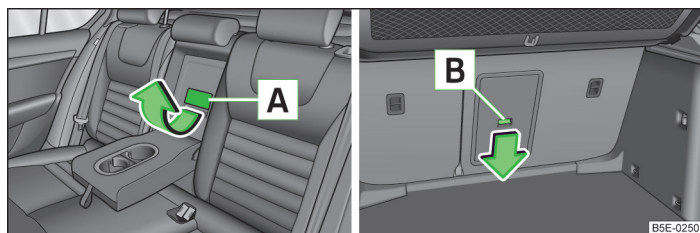

Fig. 77 Rear seats: Cover handle/boot: Unlock button
- Pull the handle **A** » Fig. 77 in the direction of the arrow and fold the cover downwards.
- Push the unlock button **B** » Fig. 77 in the direction of the arrow and fold the cover including the armrest forwards.
Ensure that the armrest is always locked into place after closing. This is apparent as the red field above the unlocking button **B** » Fig. 77 is not visible from the boot.